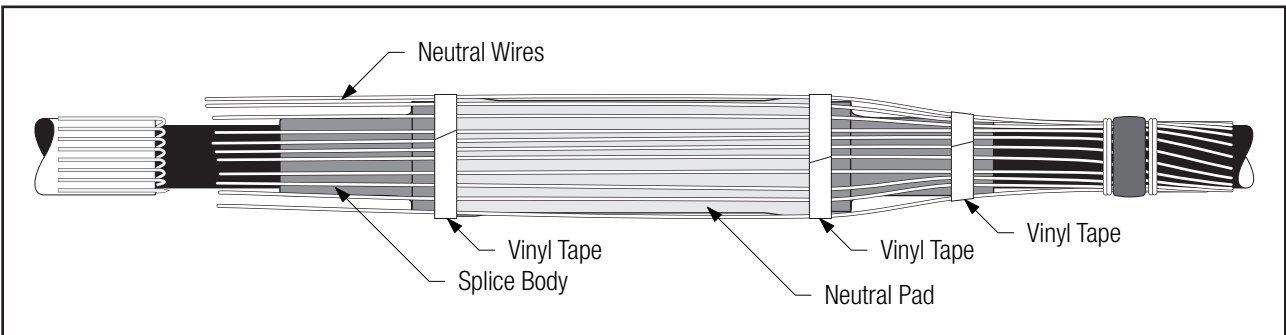

Figure 40
10.2.1 Center neutral pad on splice body. Route neutrals either straight or concentrically around splice body and secure using vinyl tape (*Figure 40*).